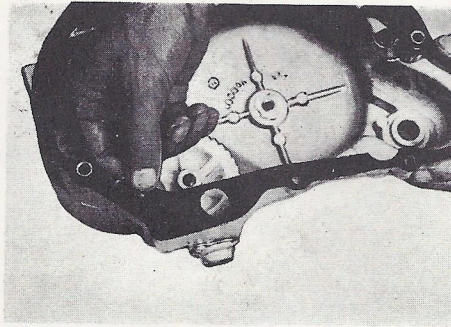

Fig. 3-7-5
- d. Replace the crankcase cover gasket, if damaged. (Fig. 3-7-5)